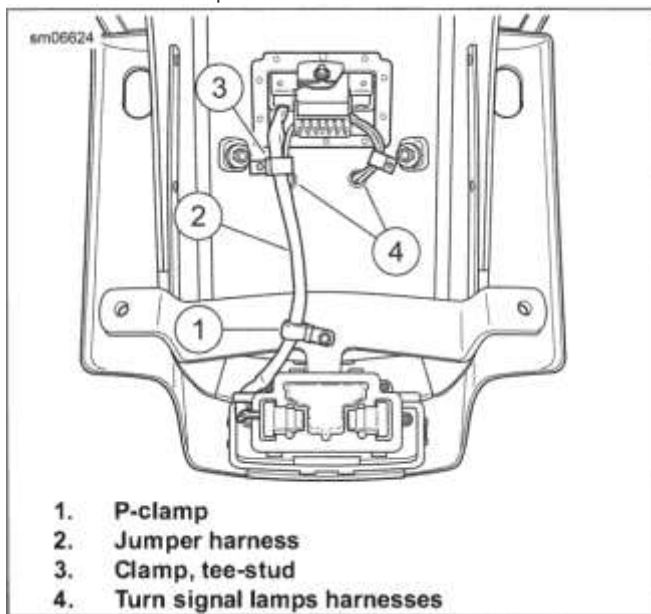

Figure 8-62. Tail Lamp Jumper Harness (models with tail lamp)
- a. See Figure 8-62. Release turn signal lamp harnesses (4) from cable clips.